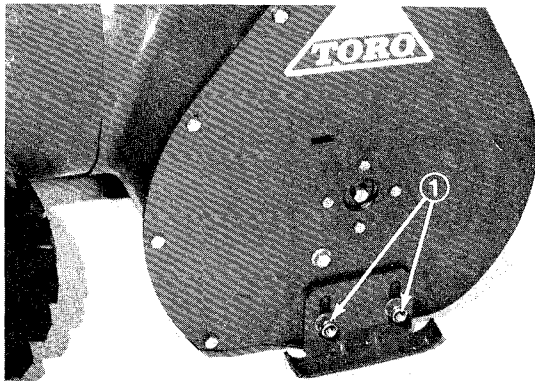

Figure 31
1. Move snowthrower to a level surface. Next, loosen four flange nuts (Fig. 31) securing both skids to auger side plates. Skids must slide up and down.
4. Loosen four flange nuts (Fig. 31) securing both skids to auger side plates. Next, slide skids down as far as possible so auger is as far from the level surface as skid adjustment allows; then tighten flange nuts.